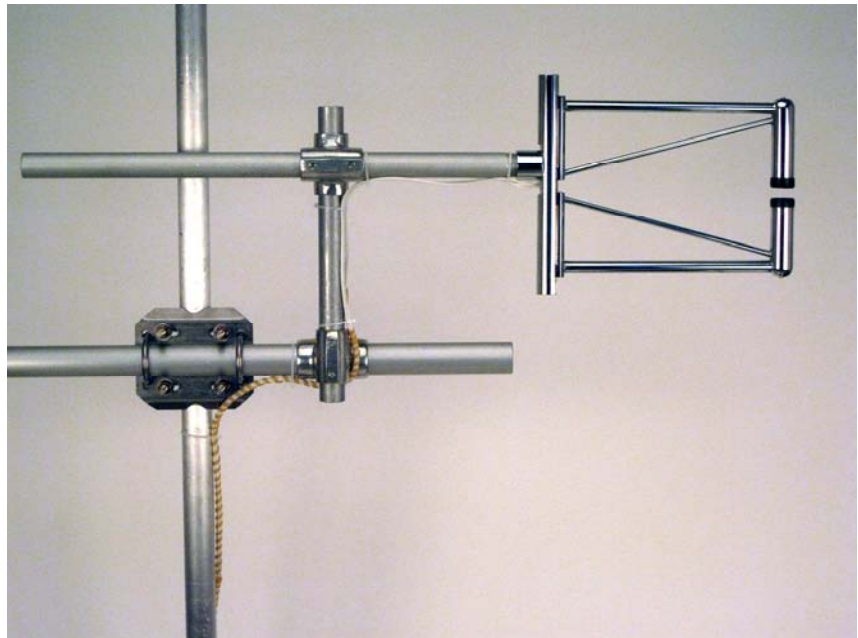

FIGURE 1. Mounting KH20 onto a tripod.
4. Mount the KH20 onto the 12" long pipe using a 3/4" x 3/4" Nu-rail (CSI p/n 1017). Mount the KH20 such that the source tube, the longer of the two tubes, is positioned on top, as shown in Figure 1. Gather any loose cables and tie them up, using cable ties, onto the tripod or tower mast.